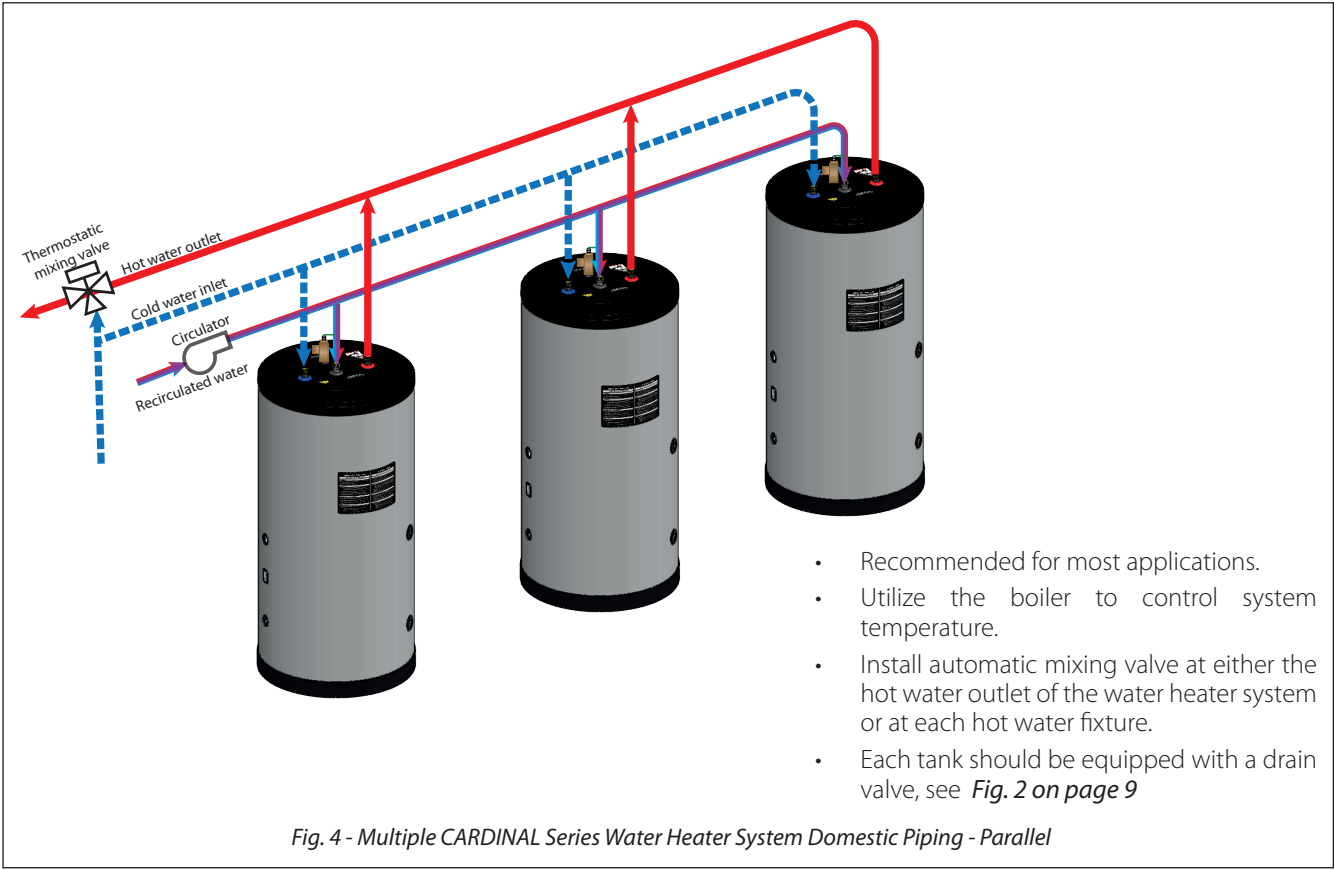
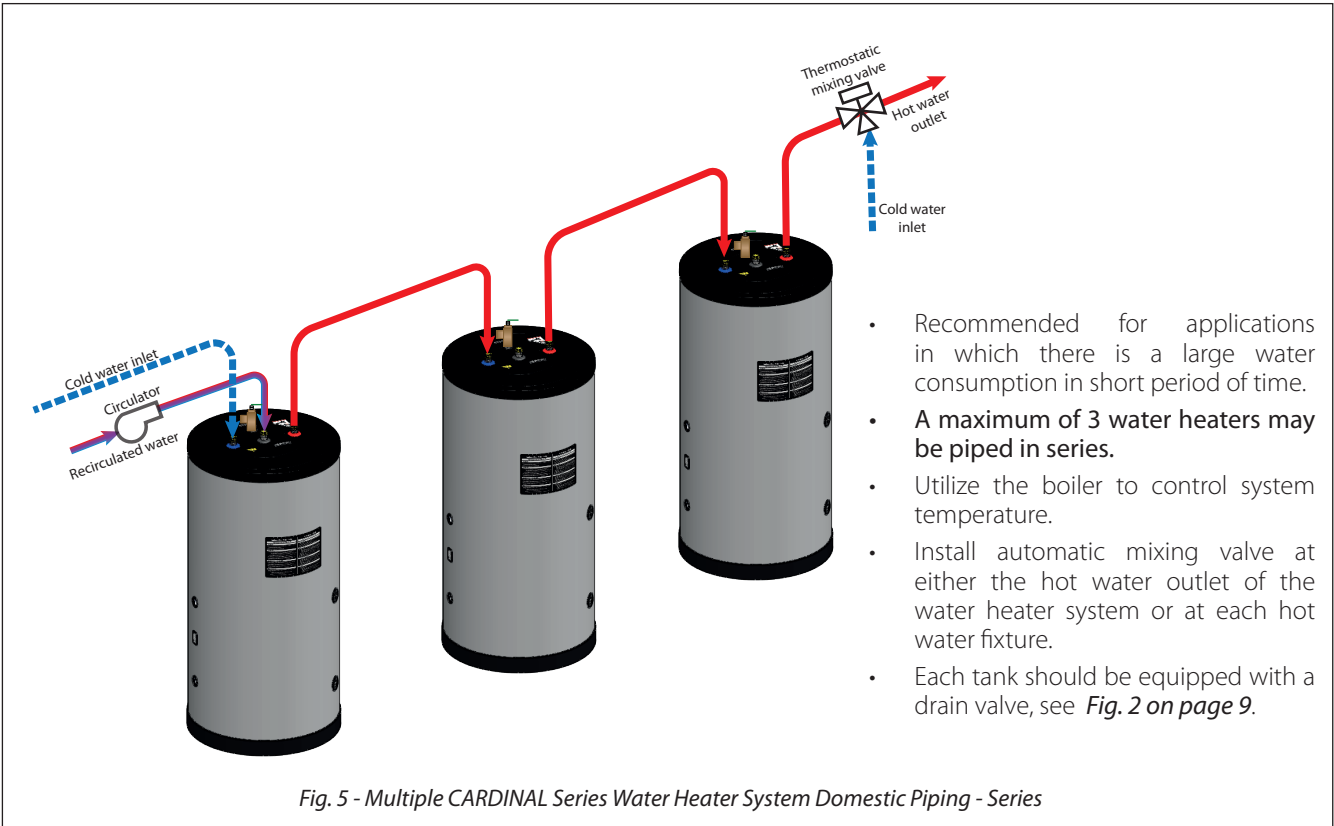

Fig. 4 - Multiple CARDINAL Series Water Heater System Domestic Piping - Parallel
Fig. 5 - Multiple CARDINAL Series Water Heater System Domestic Piping - Series
- For Multiple water heater domestic and boiler piping, refer to *Fig. 4 on page 10 and Fig. 5 on page 10*, and *Fig. 10 on page 13 and Fig. 11 on page 13*.